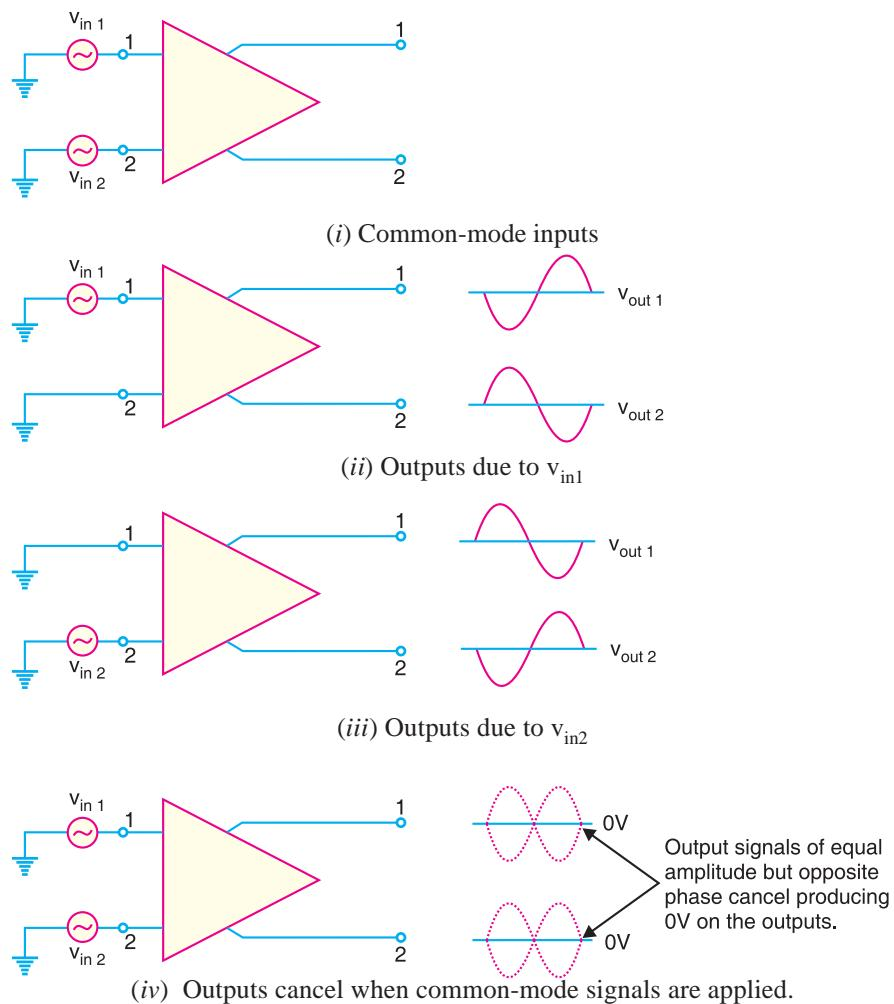

Fig. 25.11
**(ii) Common-mode input.** In this mode, two signals equal in amplitude and having the same phase are applied to the inputs of DA as shown in Fig. 25.11(i).
Again, by considering each input signal acting alone, the basic operation of *DA* in this mode can be explained. Fig. 25.11 (ii) shows the output signals due to the signal on only input 1 while Fig. 25.11 (iii) shows the output signals due to the signal on only input 2. Note that the corresponding signals on output 1 are of the opposite polarity and so are the ones on output 2. When these are superimposed, they cancel, resulting in zero output voltage as shown in Fig. 25.11 (iv).